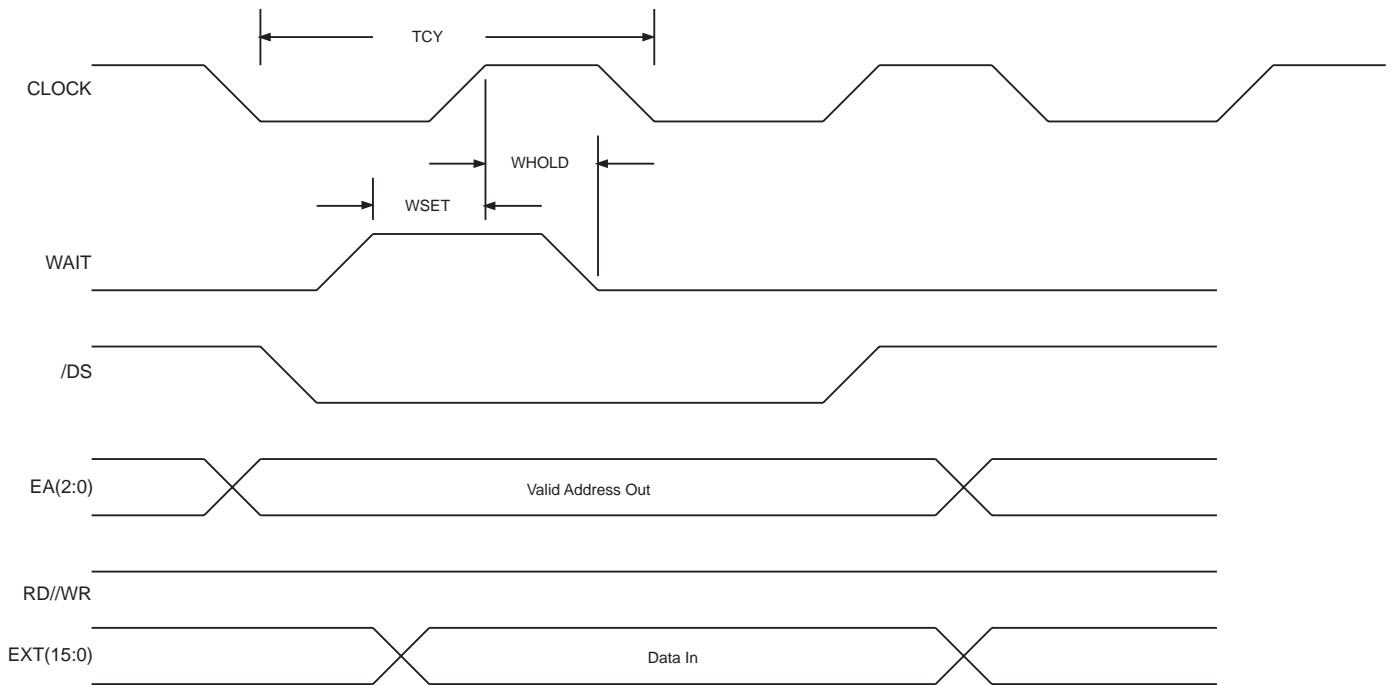

Figure 8. External (EXT) Bus Read Timing Using WAIT Pin
**User Inputs.** The Z89321 has two inputs, UI0 and UI1, which may be used by Jump and Call instructions. The Jump or Call tests one of these pins and if appropriate, jumps to a new location. Otherwise, the instruction behaves like a NOP. These inputs are also connected to the status register bits S10 and S11, which may be read by the appropriate instruction (Figure 8).